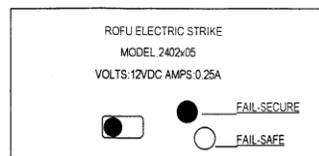

Figure 1
1. **Power Fail-Secure** - Should a power failure occur, the strike would revert to a LOCKED condition. This is commonly referred to as "Power Fail Secure" and also "Power Fail Lock". The secured area typically has a means of allowing personnel to exit the area if a power failure occurs. This configuration is typical for any area that must remain secured if power fails. (Fig. 1)